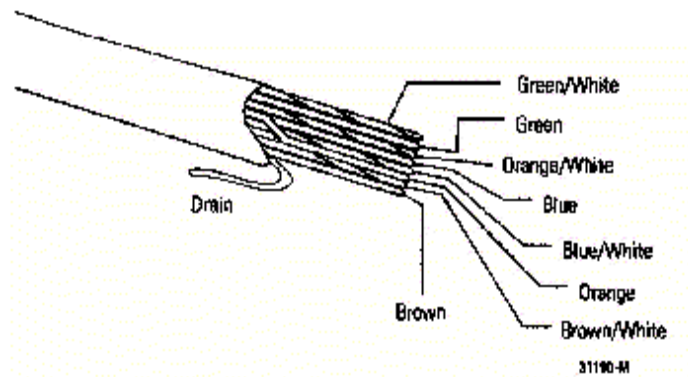

Figure 5.8 Wire preparation.
2. Separate the individual wire pairs. Untwist only back to the jacket edge as shown in Figure 5.8.
3. Fold the drain wire and/or shields back in line with the cable as shown in Figure 5.8.
4. Align the wires into color groups as shown in Figure 5.8.